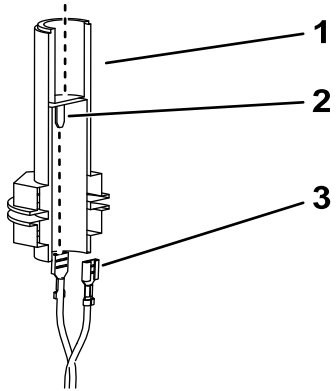

Figure 4
- Connect the loose beacon harness connectors to the spades in the beacon socket (Figure 4).